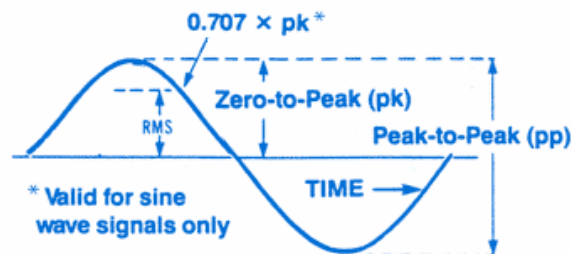

Figure 1
**interpret.** Bently Nevada defines zero-to-peak as the peak-to-peak value of a vibration signal divided by two. At Bently Nevada, zero-to-peak is synonymous with true peak. (Figure 1).